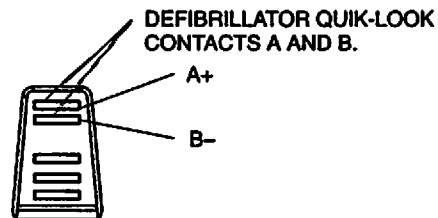

Figure 3-2 Defibrillator slide contacts
- 3 Measure the voltage at the slide contact pins A+ and B- (see Figure 3-2) with the DMM (observe proper polarity). Confirm that the voltage is $-1.2\text{Vdc} \pm 0.2\text{Vdc}$.